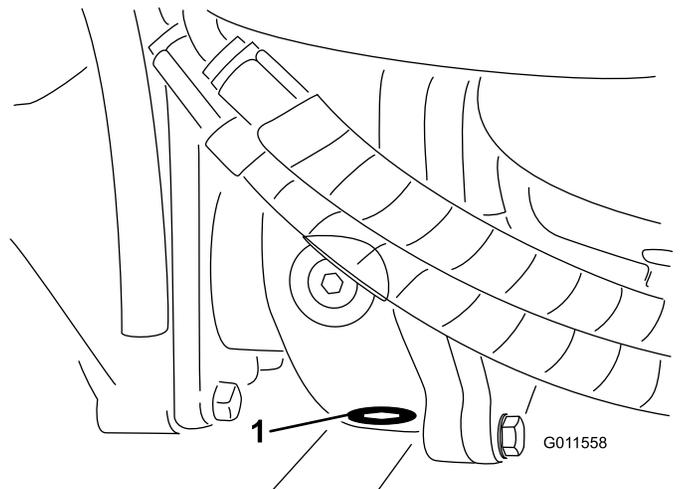

Figure 96
5. Clean the area around the drain plug at the bottom of the gear box (Figure 96).